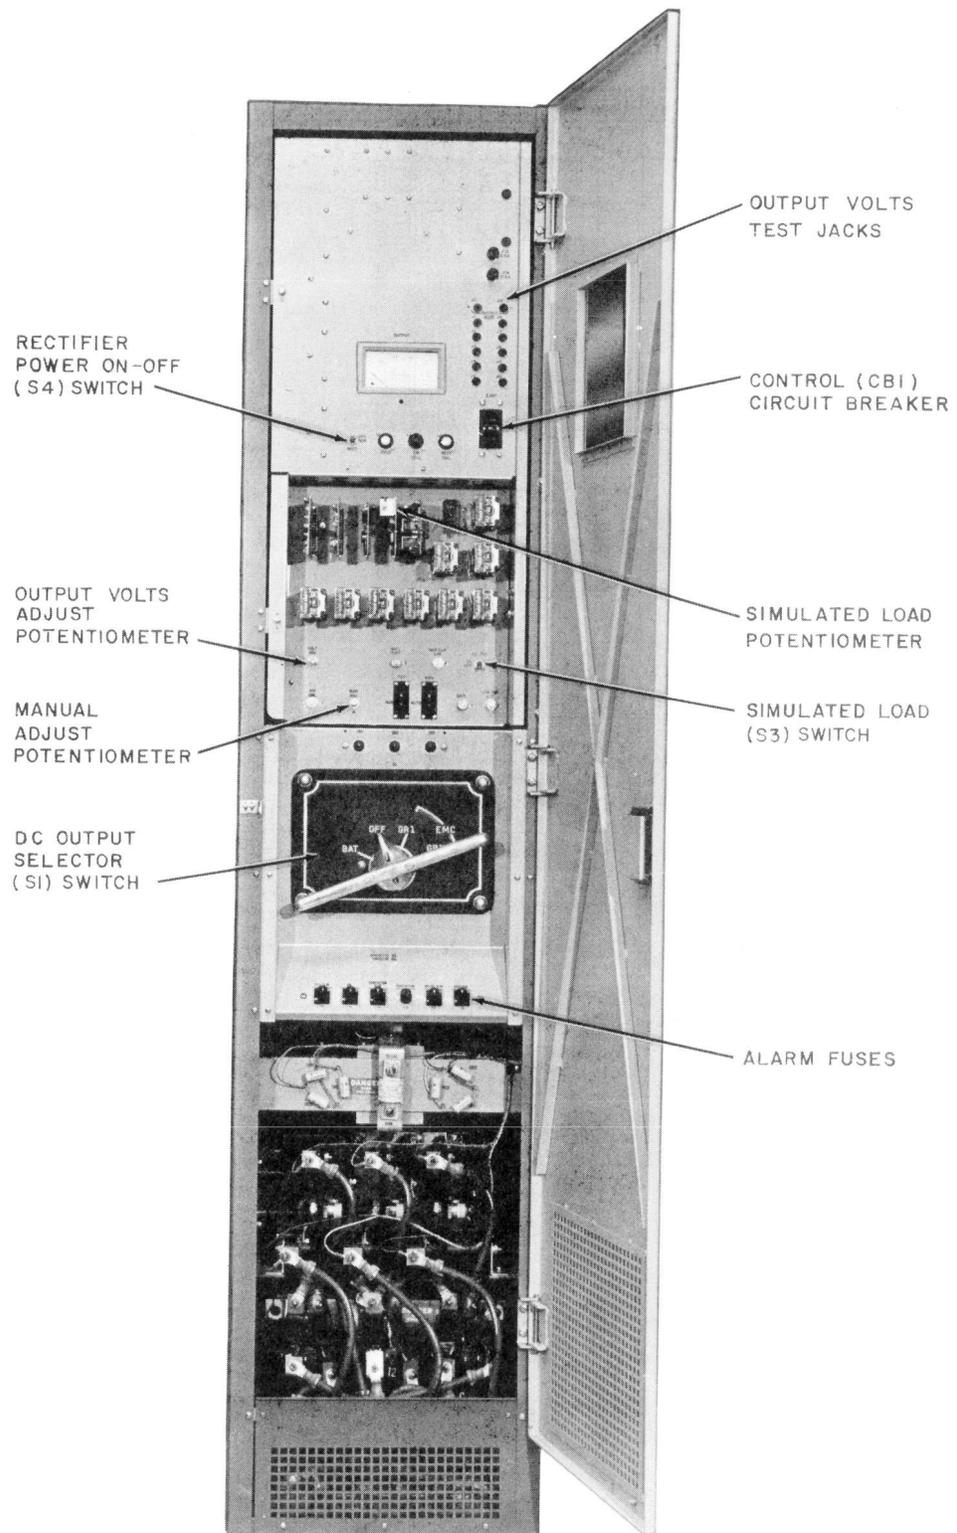

Fig. 1—KS-19210 L11 Rectifier—Late Model Without Output Voltmeter and Control Ammeter—Front View—Door Open
3.01 Preparing to Start: When preparing to put the rectifier in service, check the following (refer to Fig. 1).
◆*Later model KS-19210 L11 and L12 rectifiers are not equipped with the VM1 OUTPUT voltmeter. When not equipped with the VM1 voltmeter, test jacks J11 and J12 are provided on the meter panel to measure the rectifier output voltage. Refer to Fig. 1.*◆